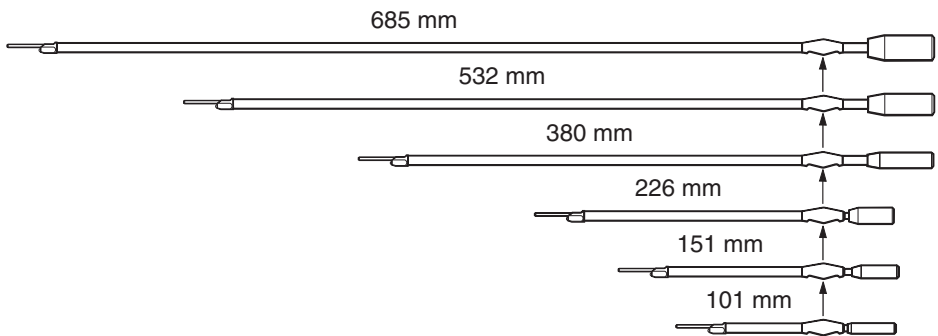

Figure 9 - Arm length selections
10. Select an arm radius R to suit the component. Use the following table to choose the correct arm for your component (see figures 9 and 10).